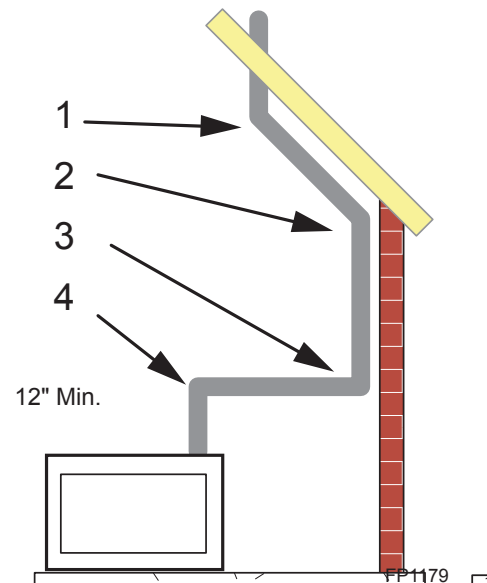
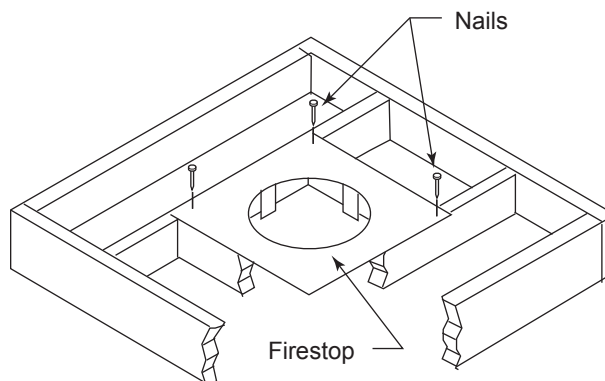
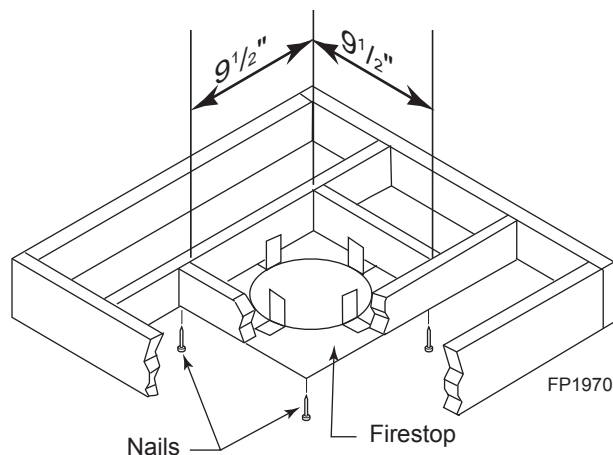

Figure 21 - Maximum Elbow Usage
Figure 23 - If Area Above is a Room, Install Firestop above Framed Hole as Shown
Figure 24 - If Area Above is Not a Room, Install Firestop below Framed Hole as Shown
- Two sets of 45° elbows offsets may be used within the vertical sections. From 0 to a maximum of 8' (2.5 m) of vent pipe can be used between elbows. Figure 21
- The maximum angular variation allowed in the system is 270°. Figure 21
NOTE: Pay special attention to these installation instructions for required clearances (air space) to combustibles when passing through ceilings, walls, roofs, enclosures, attic rafters, etc. Do not pack air spaces with insulation. Also note maximum vertical rise of the venting system and any maximum horizontal offset limitations. Offsets must fall within the parameters shown in Figures 21 and 22.
1. Cut a 10½" (241 mm) square hole in the ceiling using the locating hole as a center point. The opening should be framed to 10½" x 10½" (241 x 241 mm) inside dimensions as shown in Figure 21 using framing lumber the same size as the ceiling joist. If the area above the ceiling is an insulated ceiling or a room, nail firestop from the top side. This prevents loose insulation from falling into the required clearance space. Figure 23. Otherwise, install firestop below the framed hole. Figure 24